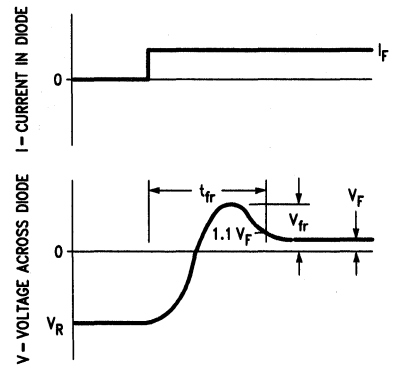

FIGURE 4
**tfr Forward Recovery Time:** The time interval between the point at which a diode is turned on and the point at which the forward voltage comes to within 10% of its equilibrium level. See *Figure 4*.